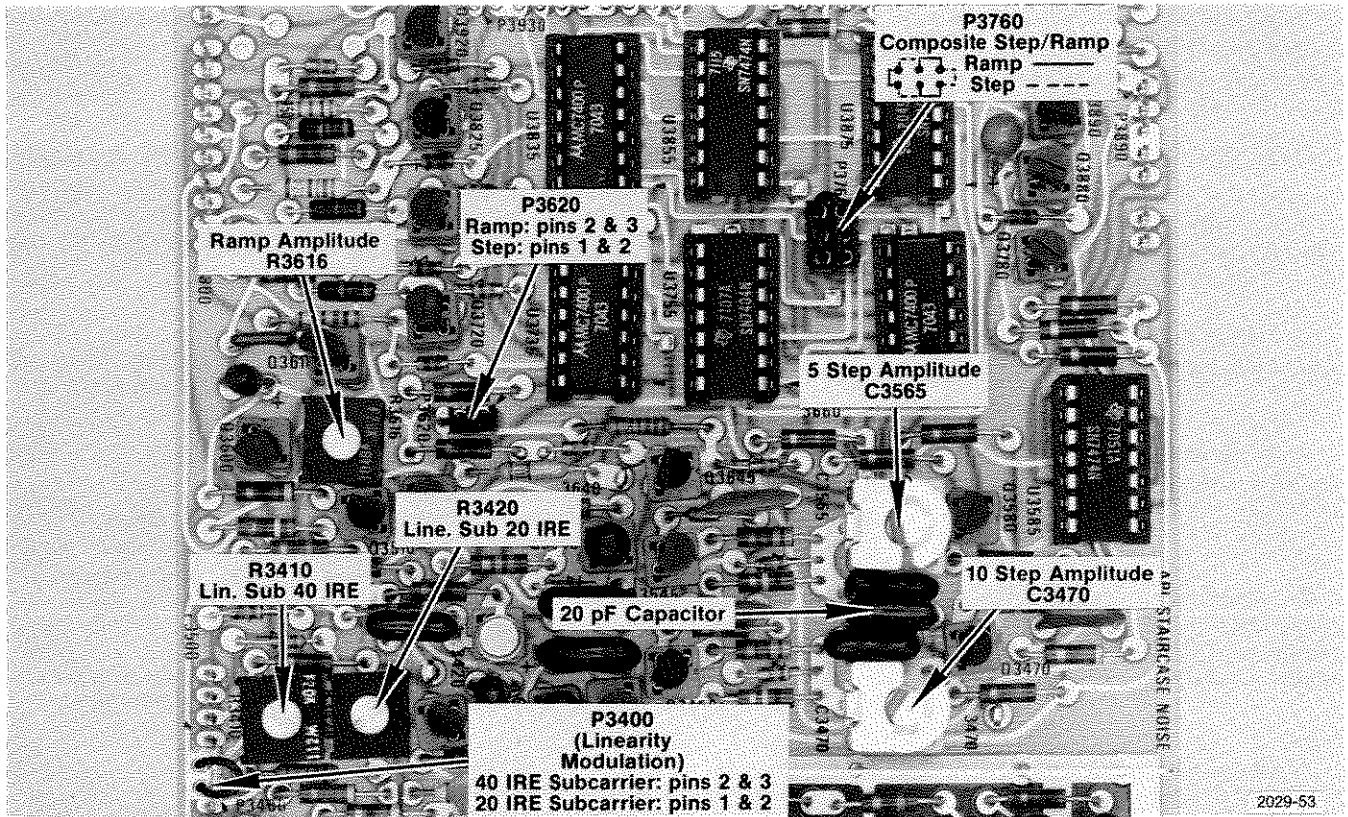

Fig. 1-21. APL and Staircase circuit board location of selector plugs and adjustments for LINEARITY operating changes.
As shipped from the factory, the LINEARITY test signal modulation amplitude is 40 IRE peak-to-peak. To obtain a modulation amplitude of 20 IRE peak-to-peak, change the connector on pins 2 and 3 of P3400 (see Fig. 1-21) to pins 1 and 2.
| 5 STEP  | Set the LINEARITY switches for 5 STEPS and SUBCARRIER OFF. For a 5 Step amplitude of between 80 and 90 IRE, adjust C3565 (see Fig. 1-21) for the desired amplitude. For a 149A 5 Step amplitude of between 90 and 100 IRE, connect P3470 between pins 2 and 3 (see Fig. 1-21) and adjust C3565 for the desired amplitude. For a 147A 5 Step amplitude between 90 and 100 IRE, connect C3467 to the socket provided, and adjust C3565 for the desired amplitude. |
As shipped from the factory, the 5 Step Staircase is generated as a portion of the COMPOSITE signal. To replace the steps with a ramp, rotate P3760 (see Fig. 1-21) 180°, and connect P3620 (see Fig. 1-21) between pins 2 and 3.
- c. Change the connector between pins 1 and 2 of P3620 (see Fig. 1-21) to pins 2 and 3.
As factory-connected, the FLAT FIELD BOUNCE signal switches on line 57. If desired, the switching can be made to occur at random by changing the connector on pins 2 and 3 of P3926 (see Fig. 1-21) to pins 1 and 2.